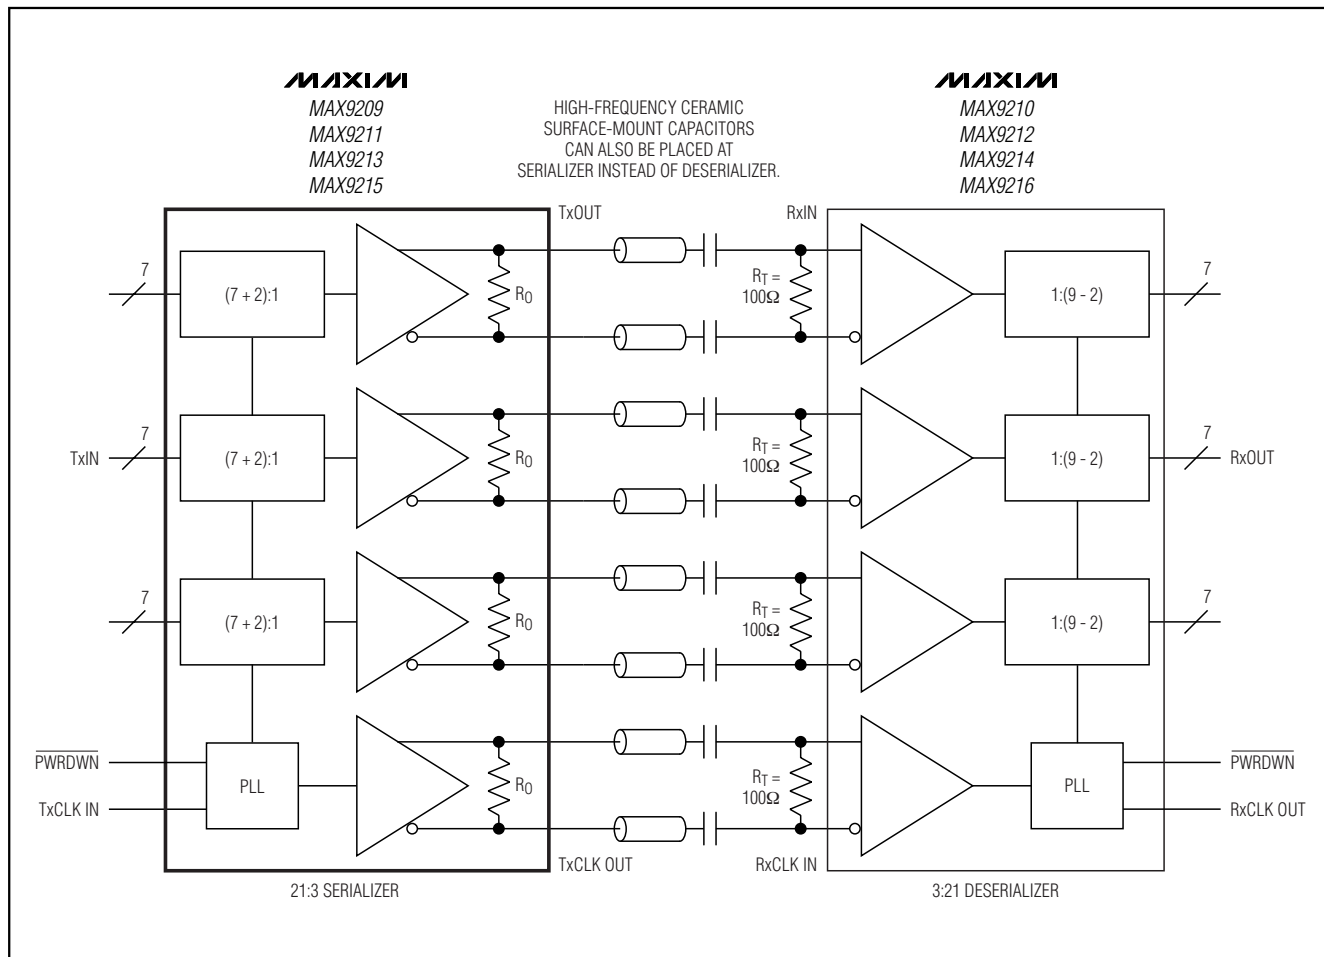
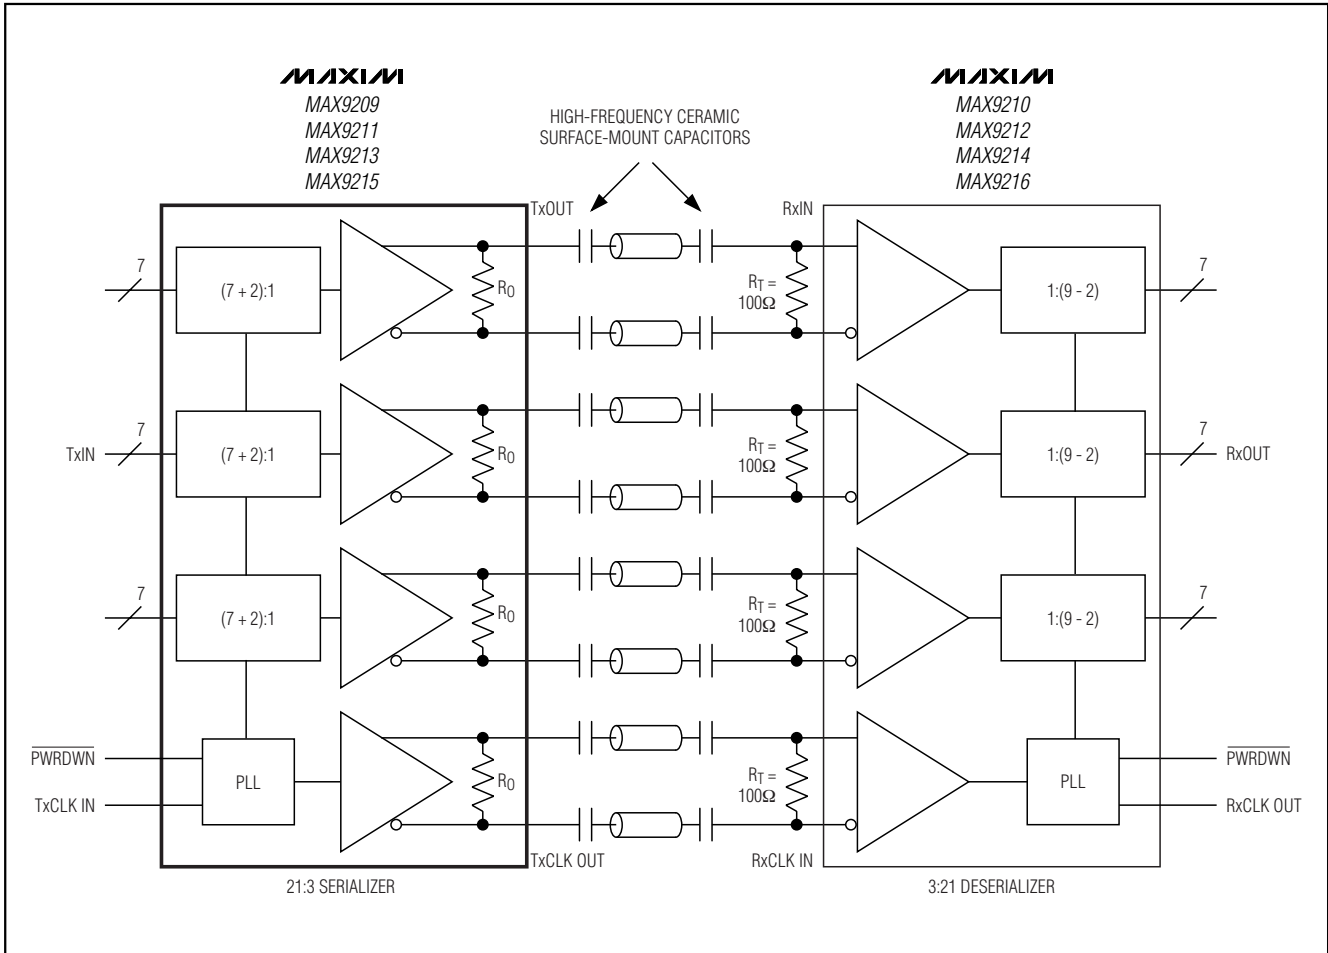

Figure 14. Two Capacitors per Link, AC-Coupled, DC-Balanced Mode
Figure 15. Four Capacitors per Link, AC-Coupled, DC-Balanced Mode
The RC network for an AC-coupled link consists of the LVDS receiver termination resistor (R_T), the LVDS driver output resistor (R_O), and the series AC-coupling capacitors (C). The RC time constant for two equal-value series capacitors is $(C \times (R_T + R_O))/2$ (Figure 14). The RC time constant for four equal-value series capacitors is $(C \times (R_T + R_O))/4$ (Figure 15).
Equation 1 is for two series capacitors (Figure 14). The bit time (t_B) is the period of the parallel clock divided by 9. The DSV is 10. See equation 3 for four series capacitors (Figure 15).
Equation 1 altered for four series capacitors (Figure 15) is: